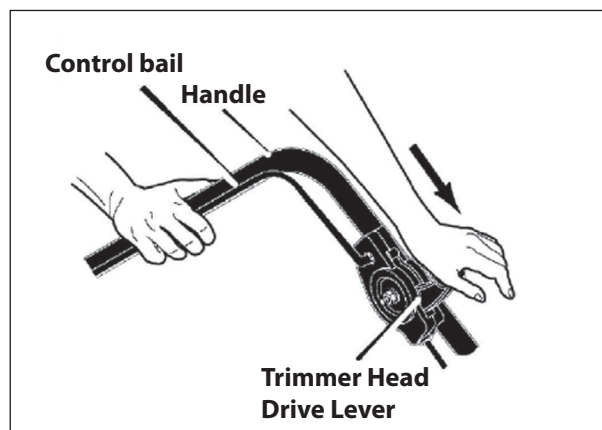

Figure 6: Using the trimmer head drive lever
1. To engage the trimmer head, hold the control bail against the handle. Move the trimmer head drive lever forward to engage the trimmer head. The faster the engine runs, the faster the trimmer head will rotate. **SEE FIGURE 6.**